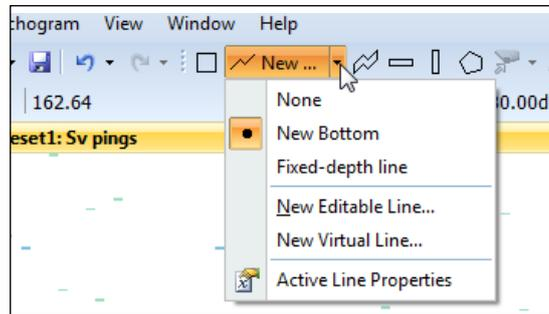

Figure 21: The Line and Surface tool's menu with the New Bottom line selected.
30. On the menu, select *New Bottom* (see Figure 21). This is now the active line to which your edits will be applied.